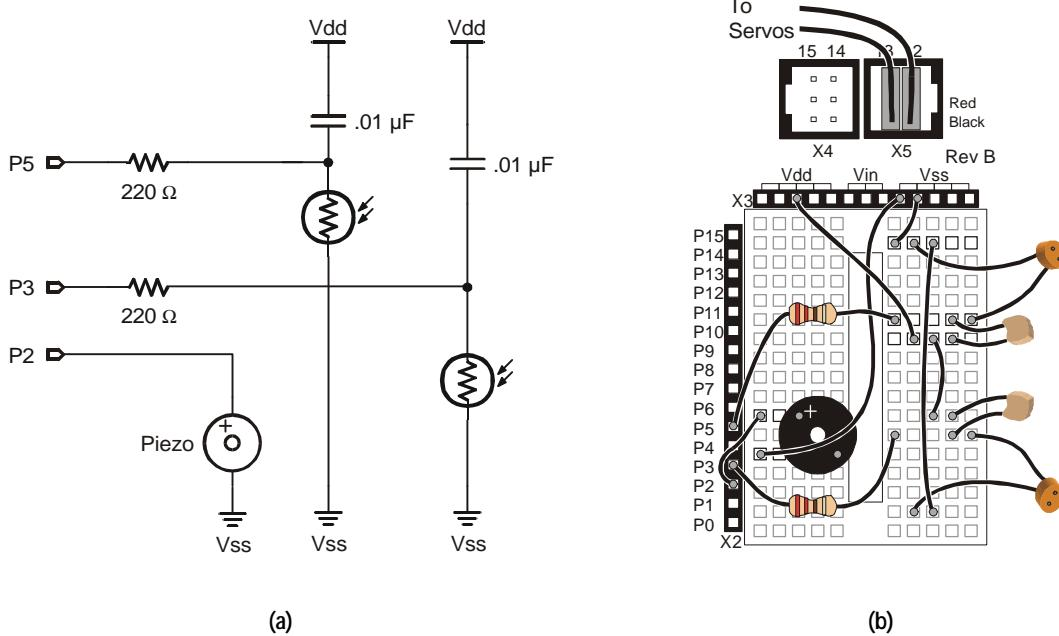

Figure 4.3: (a) Two photoresistor RC circuits for measurement of resistance that varies with light, and (b) breadboard example of the circuit.
Figure 4.3 shows (a) the resistor/capacitor (RC) circuit for each photoresistor and (b) a breadboard example of the circuit. A photoresistor is an analog device. Its value varies continuously as illuminance, another analog value, varies. The photoresistor's resistance is very low when its light-sensitive surface is placed in direct sunlight. As the light level decreases, the photoresistor's resistance increases. In complete darkness, the photoresistor's value can increase to more than $1 \text{ M}\Omega$. Even though the photoresistor is analog, its response to light is nonlinear. This means if the input source (illuminance) varies at a constant rate, the photoresistor's value does not necessarily vary at a constant rate.
The circuit in Figure 4.3 (a) was designed for use with the PBASIC `rctime` command. This command can be used with an RC circuit where one value, either R or C, varies while the other remains constant. The `rctime` command lends itself to measuring the variable values because it takes advantage of a time varying property of RC circuits. The time it takes for the voltage on an RC circuit to change voltage depends on $R \times C$, the RC time constant. The RC time constant is often denoted by the Greek letter Tau (τ).
For one of the RC circuits shown in Figure 4.3 (a), the first step in setting up the `rctime` measurement is charging the lower plate of the capacitor to 5 V. Setting the I/O pin connected to the lower capacitor plate by the 220 Ω resistor high for a few ms takes care of this. Next, the `rctime` command can be used to take the measurement of the time it takes the lower plate to discharge from 5 to 1.4 V. Why 1.4 V? Because that's the BASIC Stamp I/O pin's threshold voltage. When the voltage at an I/O pin set to input is above 1.4 V, the value in the input register bit connected to that I/O pin is "1." When the voltage is below 1.4 V, the value in the input register bit is "0."
The `rctime` command for the circuit shown in Figure 4.3 measures how long it takes for the voltage at the lower plate of the capacitor to fall from 5 to 1.4 V. This time varies according to the formula:
Equation 4.1 indicates that the time it takes the voltage at the lower plate of the capacitor in one of the Figure 4.3 (a) RC circuits to drop from 5 to 1.4 V is directly proportional to the photoresistor's resistance. Since this resistance varies with illuminance (exposure to varying levels of light), so does the time. By measuring this time, relative light exposure can be inferred.